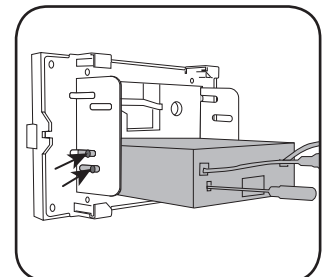

Fig. 1.19
- Slide the radio chassis into the radio bracket and secure it with the hardware provided with the radio. (Fig. 1.19)